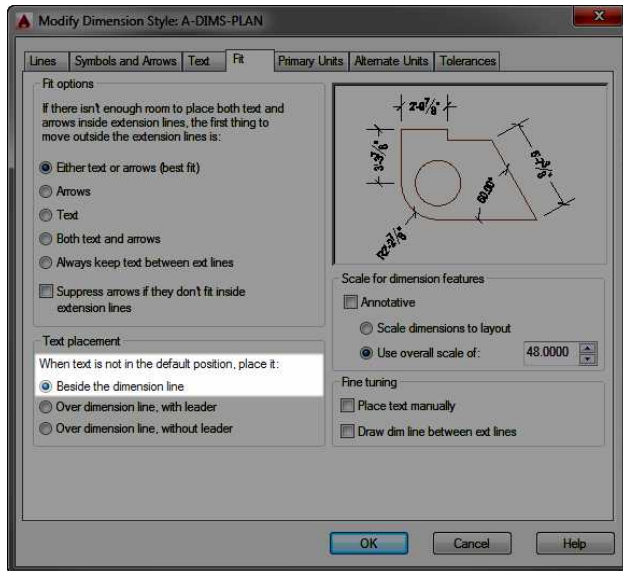

FIGURE 12.55 The Fit tab of the Modify Dimension Style dialog box after making the change
7. In the Text Placement group, select the Beside The Dimension Line radio button (see Figure 12.55).